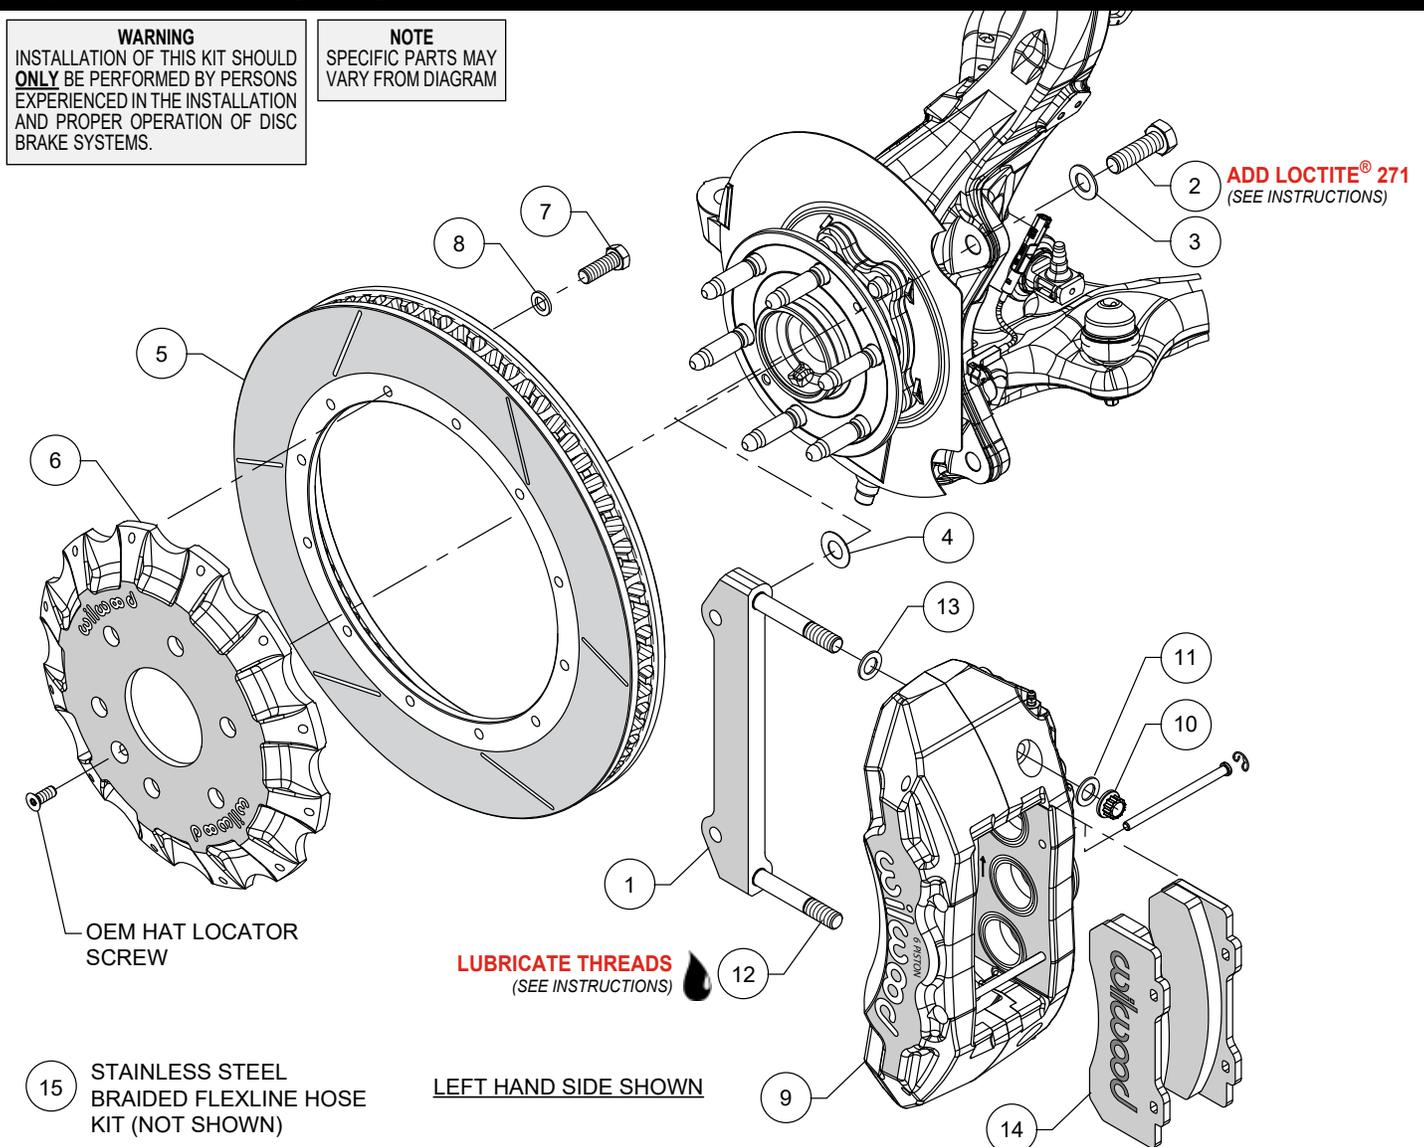
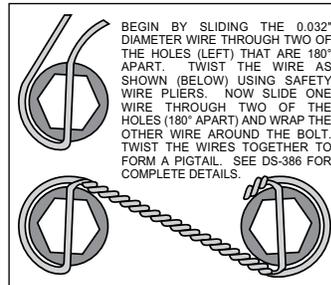

Figure 1. Typical Installation Configuration
Figure 3. Safety Wire Diagram
NOTE: Numbers in parenthesis refer to the parts list and Figure 1 on the preceding pages.
- The caliper mount bracket (1) should initially be installed with clean, dry threads on the mounting bolts. Orient the bracket as shown in Figure 1, and install using bolts (2) and washers (3). Initially place one .029 thick shim (4) on each bolt between the bracket and upright, Figure 1. Temporarily tighten the mounting bolts. **NOTE:** The bracket must fit squarely against the mount bosses on the upright. Inspect for interference from casting irregularities, machining ridges, burrs, etc. **NOTE:** Some aftermarket uprights may require modifications to the mounting lugs to fit the new caliper bracket. Later, after the caliper alignment has been checked, the mount bolts will be secured using red *Loctite*® 271.
- Orient the rotor (5) and the hat (6) as shown in Figure 1 and Photo 2. Attach rotor to hat using bolts (7) and washers (8). Apply red *Loctite*® 271 to the bolt threads and torque to 25 ft-lbs using a criss-cross pattern. For an added measure of security, the bolts may be safety wired using standard 0.032 inch diameter stainless steel safety wire as shown in Figure 3. Please refer to Wilwood's data sheet DS-386 (available at www.wilwood.com/Pdf/DataSheets/ds386.pdf) for complete safety wire installation instructions.
- NOTE:** This kit contains distinct right and left hand calipers that must be mounted in a specific direction, as described below. Lubricate the caliper mounting studs (12) with lightweight oil. Initially place one .032" thick shim (13) on each stud as shown in Figure 1 and Photo 3. Mount the caliper (9) onto the bracket (1) using lock nuts (10) and washers (11), Figure 1. Ensure that the caliper is mounted so that the largest pistons are at the rotor exit end of the caliper, in relation to the direction of rotor rotation. Temporarily tighten the lock nuts and view the rotor through the top opening of the caliper. The rotor should be centered in the caliper, Photo 4. If not, adjust by adding or subtracting shims (4) between the bracket and the upright. Always use the same amount of shims on each of the two mounting bolts. Once the caliper alignment is correct, remove the bracket mounting bolts (2) one at a time, apply red *Loctite*® 271 to the threads, and torque to 105 ft-lb.
- Remove the two pad retaining pins from the caliper by carefully popping out the pin retaining clips and sliding out the pins. Insert the brake pads (14) into the caliper, with the friction material facing the rotor, as shown in Photo 5 and secure the brake pads in place with the pad retaining pins and clips, Photo 6. Check that